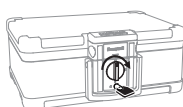

Figure 1.3
3. With key lock in the unlocked position, turn the knob to the right to the unlocked position (Figure 1.3).